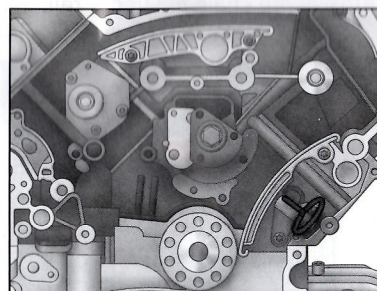

Fig.51
- (3) Remove the idler pulley bolts, then remove the idler pulleys with the timing chain. (Fig.51)